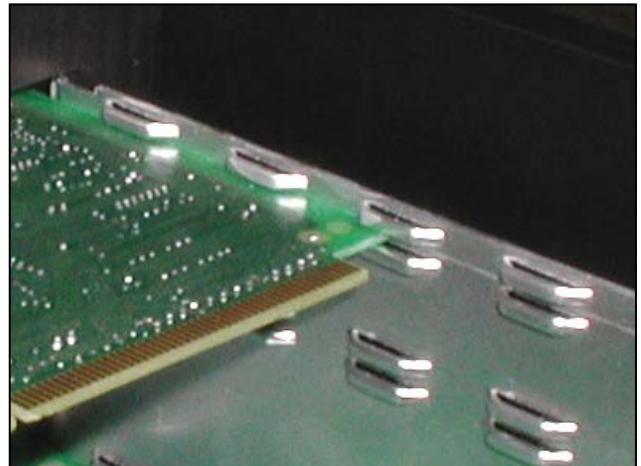

Figure 3-116. Card Track
4. Line up new board with the card track inside the Card Carriage (Figure 3-116).